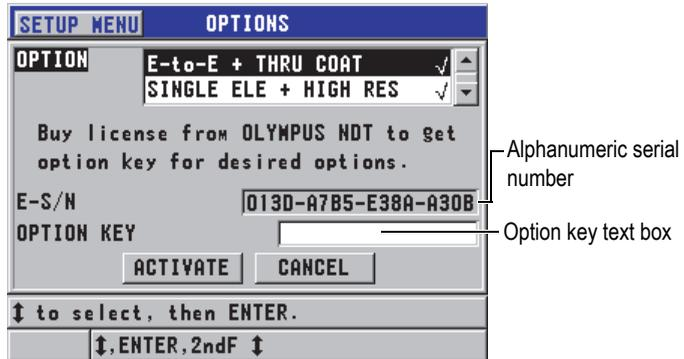

Figure 6-1 The **OPTIONS** screen
2. In the **SP MENU** (see Figure 4-2 on page 43), select **OPTIONS** (see Figure 6-1 on page 67), take note of the 16-digit alphanumeric serial number appearing in the **E-S/N** field.
4. In the **OPTIONS** screen (see Figure 6-1 on page 67):